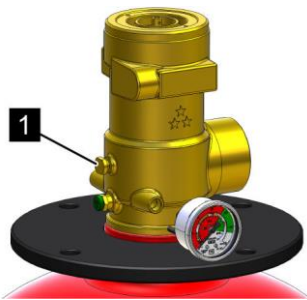

Fig. 65: Control outlet
11. ➤ Remove the blind plug on the control outlet (Fig. 65/1) of the "master" extinguishing agent container and screw in the adapter.